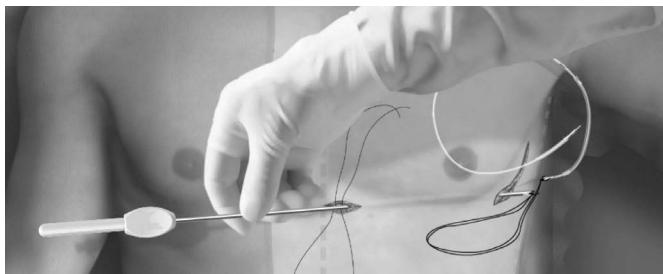

Figure 13: Connecting the distal end of the subcutaneous electrode to the EIT
3. Using conventional suture material, tie the anchoring hole of the subcutaneous electrode to the EIT creating a long 15-16 cm loop (Figure 13).